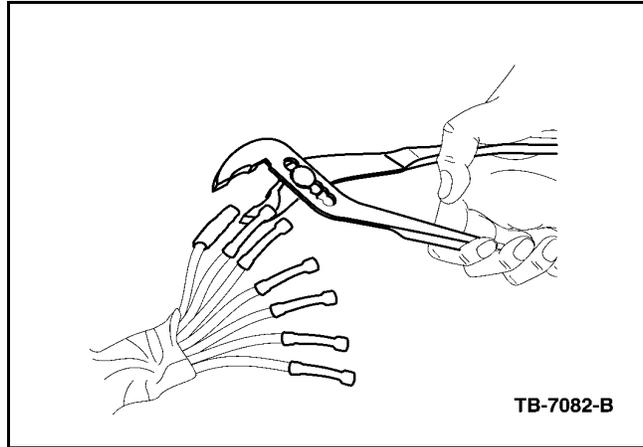

Figure 4 - Article 04-14-7
4. While the adhesive is still hot, use pliers to pinch the ends of the heat shrink tubing closed to form a moisture proof seal (Figure 4).